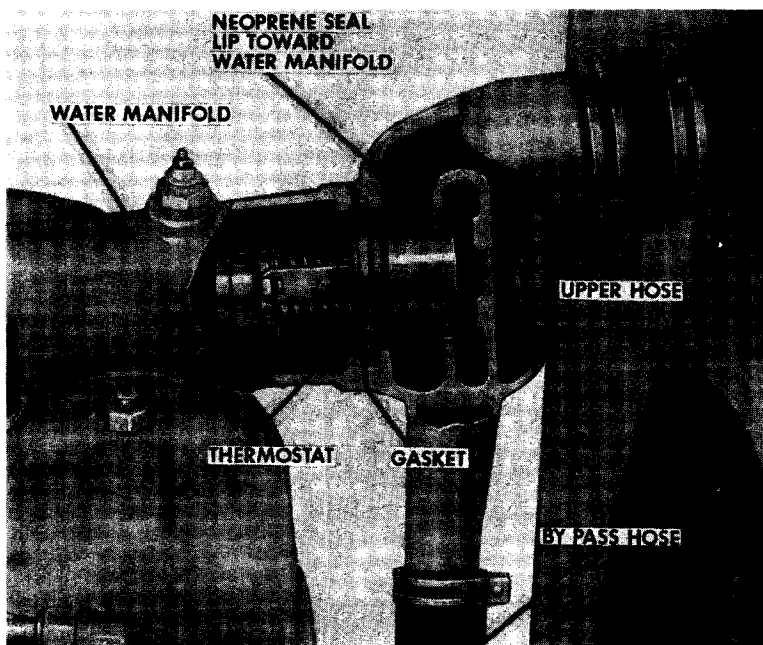

Figure 43
A thermostat and by-pass hose are located in the water manifold as shown in Figure 43. The thermostat blocks the coolant flow to the radiator when the coolant temperature is below its 180° Fahrenheit opening temperature. The coolant must then pass down through the by-pass hose and be recirculated through the engine until the heat of combustion warms it sufficiently to open the thermostat.
3. Remove the upper radiator hose and the by-pass hose; then remove the thermostat housing. The thermostat is located between the water manifold and the thermostat housing, Figure 43.
1. Install a new Genuine Case thermostat as indicated in Figure 43.